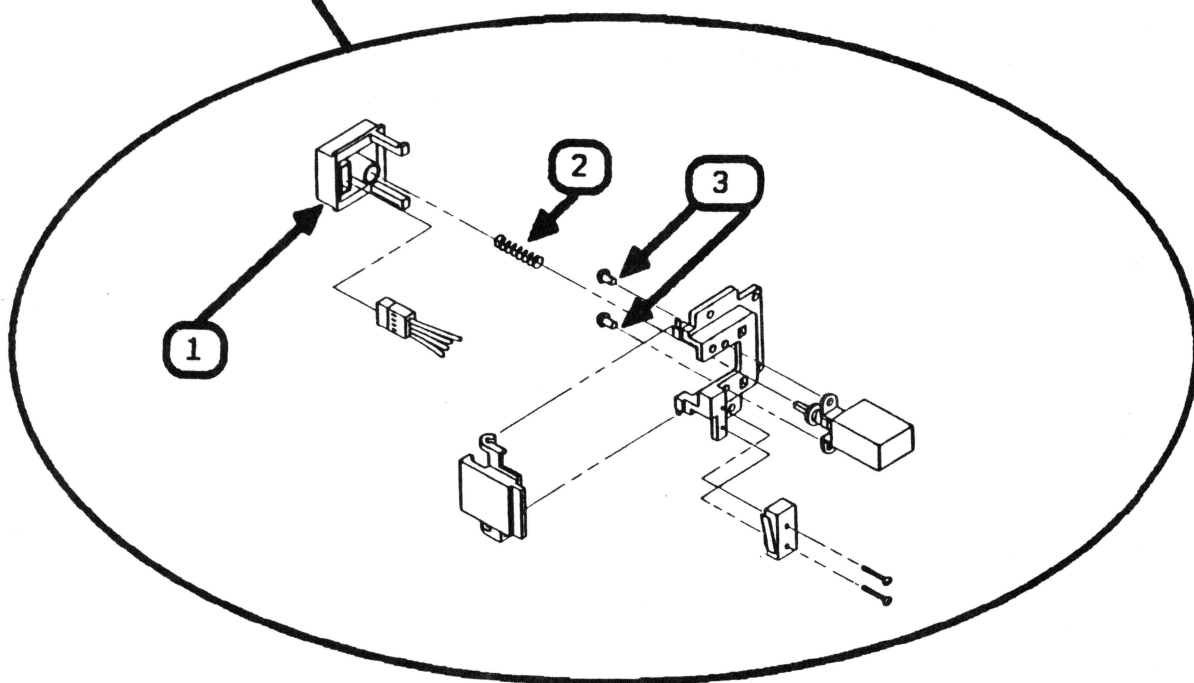

FIGURE 24
5. The power button (Figure 24, #1) is attached to the plastic mounting plate by two legs at the top of the button. To release the button, push the two legs inward as you pull the button away from the mounting plate.
7. Remove the small spring (Figure 24, #2) located on the power switch shaft.
8. Remove two Phillips switch mounting screws (Figure 24, #3) located at either side of the power switch shaft.
1. Orient the plastic mounting plate as it is shown in Figure 24.
3. Place the spring back on the shaft of the switch (Figure 24, #2.) and replace the switch mounting screws.